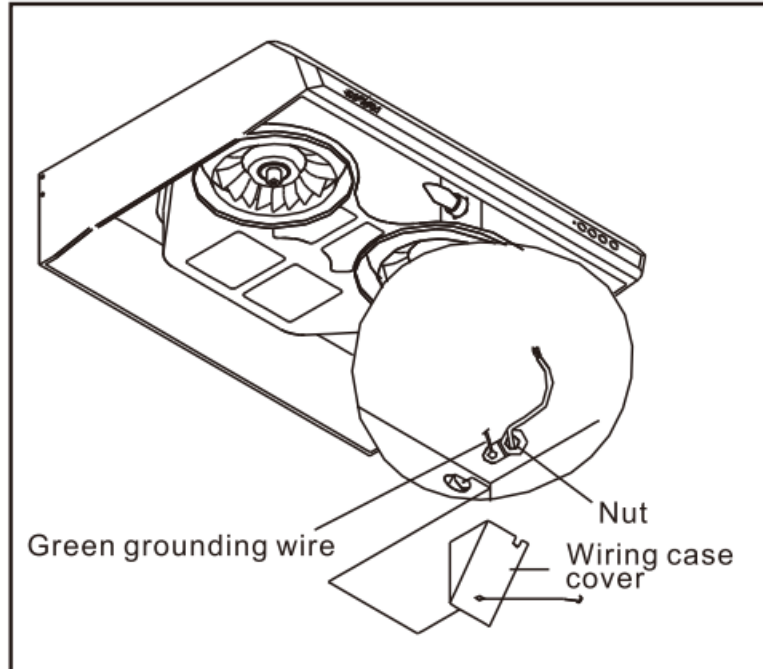
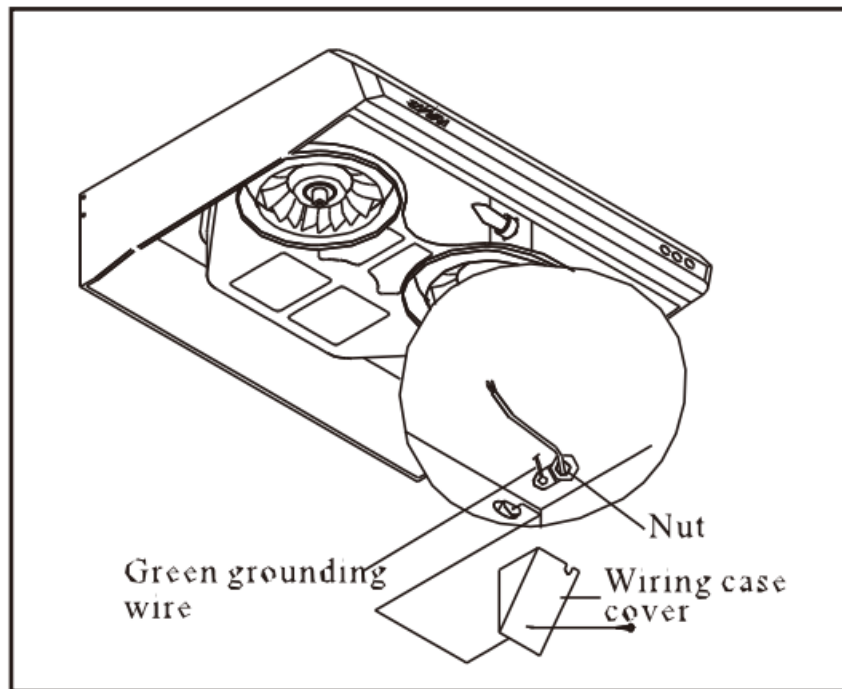

Fig. 14-1 Wire the power supply cord
Fig. 14-2 Wire the power supply cord
11. Connect the leading wires and power supply cord (refer to the circuit diagram on page 10/11 in this manual.), put back cover and screw on. (Fig.14-1/Fig.14-2)